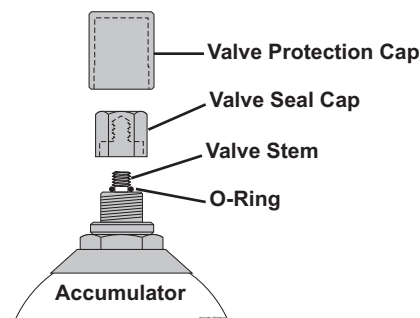

Figure 16
4. Remove the valve protection cap and the valve seal cap from the accumulator that you will charge first (Figure 16).